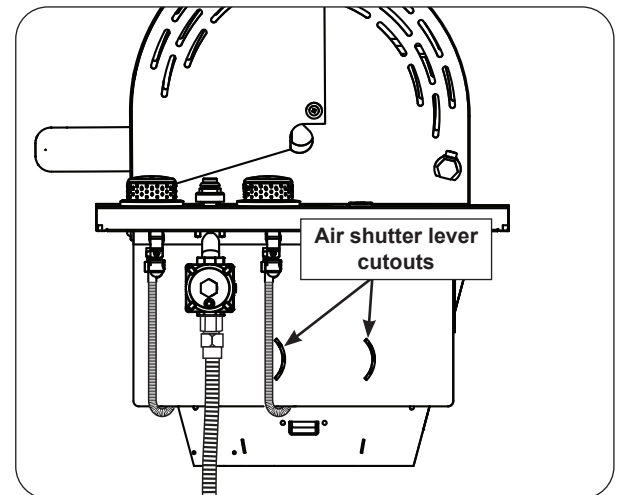
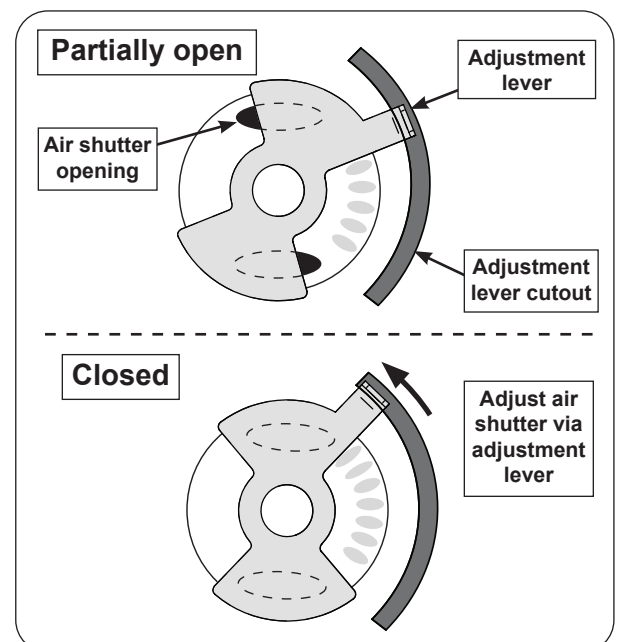

Fig. 39-2 Air shutter lever cutout location
Fig. 39-3 Main burner air shutter adjustment
Main burner air shutter adjustment levers are easily accessed through the required side access door on the right side of the enclosure. The air shutters are controlled by the adjustment levers protruding through the side body below the manifold (see Fig. 39-2 and Fig. 39-3). Each air shutter has a small dimple that allows it to lock into notches in the burner face. This prevents the air shutter from moving. See Fig. 39-3.
3. Begin closing the air shutter **with the adjustment lever** until the flames appear to burn while touching the burner ports (Fig. 39-3).